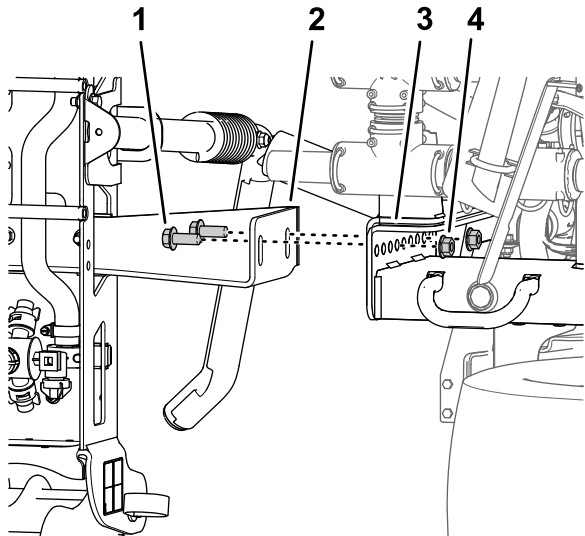

Figure 45
- 4. Remove the 4 flange-head bolts (1/2 x 1-1/4 inches) and 4 flange locknuts (1/2 inch) that secure the support brackets of the center-spray section to the mounting plate on the frame for the machine, and remove the center-spray section from the machine (Figure 45).